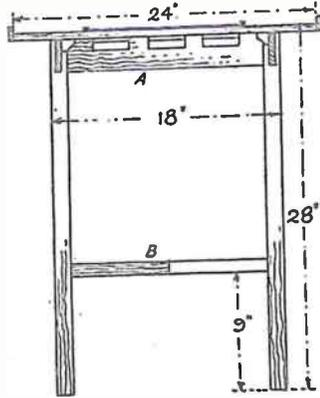
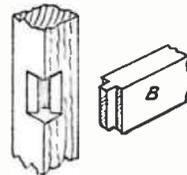
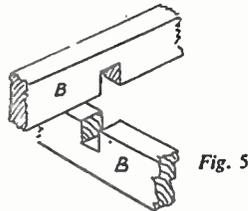
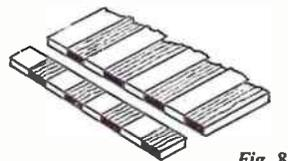

Fig. 2
Fig. 6
Fig. 7
Fig. 8
middle of the legs, as indicated by the dotted lines in Fig. 6, and as seen again in Fig. 3. It will be seen that the mortises are cut from the two inside faces of the legs. After the joints are cut they should be fitted together to see that the joints are true before finally gluing up.
The table top is 24ins. square and 1/2in. thick. It is doubtful if deal could be obtained in one width, in which case two or more pieces may be grooved and tongued together. It may be possible to obtain a piece of stout plywood 24ins. square which would do quite well and simplify the matter of jointing. Small wood fillets, about 1in. by 1/2in., 1/2in. in section, are mitred and screwed round the edges of the top. (See Fig. 7.)
The playing board is 12ins. square, and consists of thirty-two dark squares and the same number of white squares laid alternately as the sketch shows. The squares of wood may be cut and arranged as shown in Fig. 8, four white strips of wood and four black strips, each 1 1/2ins. wide and 1/2in. thick, being first cut and arranged as Fig. 8 shows. On the panel thus formed, draw lines across at 1 1/2in. intervals and cut along with a fine fretsaw. Every other strip
The sides of the finished panel can have a mitred edging of wood about 1/2in. by 1/2in. in section, glued and pinned through to the table top. The completed top is fixed to the leg rails by angle blocks as seen in Fig. 2. (S.W.C.)
It will be seen from the sectional diagram, Fig. 2, that the actual playing board is added as a separate unit and glued centrally to the table top. The illustrations included here will make the construction clear. Fig. 2 is a sectional view through the table showing how the side rails stand in relation to the top, and how the latter is glue-blocked to them. Figs. 3, 4 and 5 give details of the joints used in framing the legs and the cross-rails together. Fig. 6 gives a plan on top of one of the legs after the rails have been framed in and glued, while Fig. 7 shows how the edging strips are added round the table top. Fig. 8 will help when it comes to the making of the playing board.
The legs are 27ins. long by 1 1/2ins. square in section and all the sharp corners should be rounded off as seen in Fig. 6. The leg rails (B) which connect the legs at the top are each about 17 1/2ins. long by 2 1/2ins. deep and 1/2in. thick. These are framed into the legs by mortise and tenon joints as at Fig. 3. These joints are known as bare-face mortise and tenon joints, the tenons being kept level with the outer faces of the rails and the ends being cut to an angle of 45 degrees to meet in the